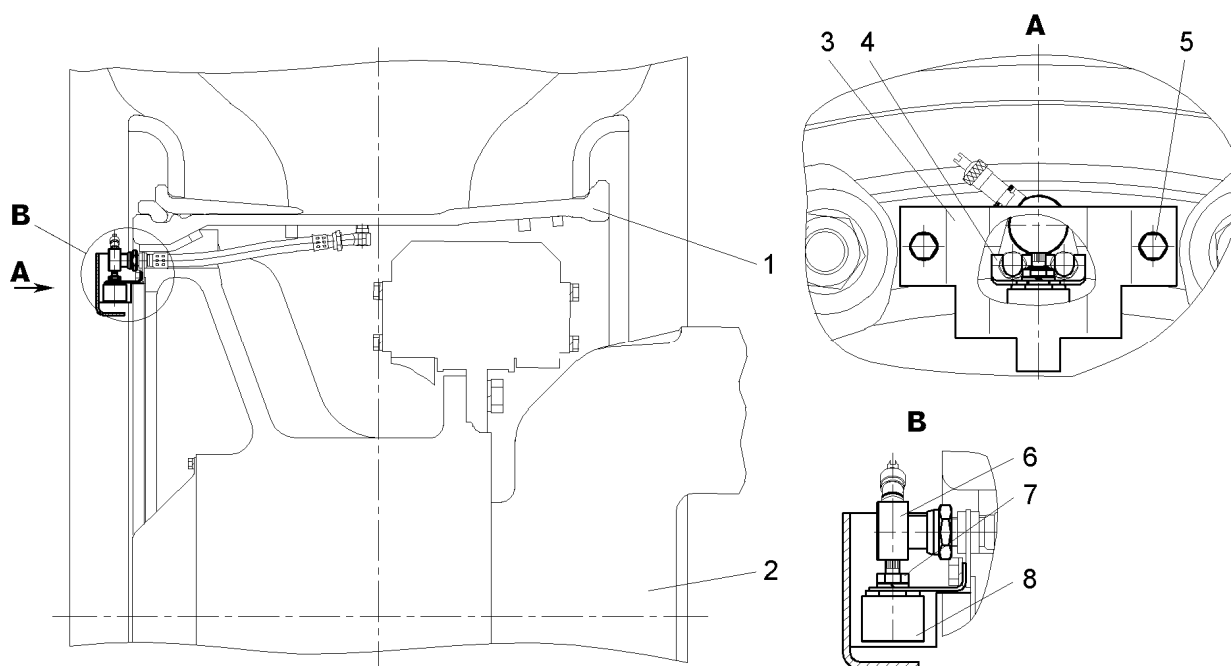
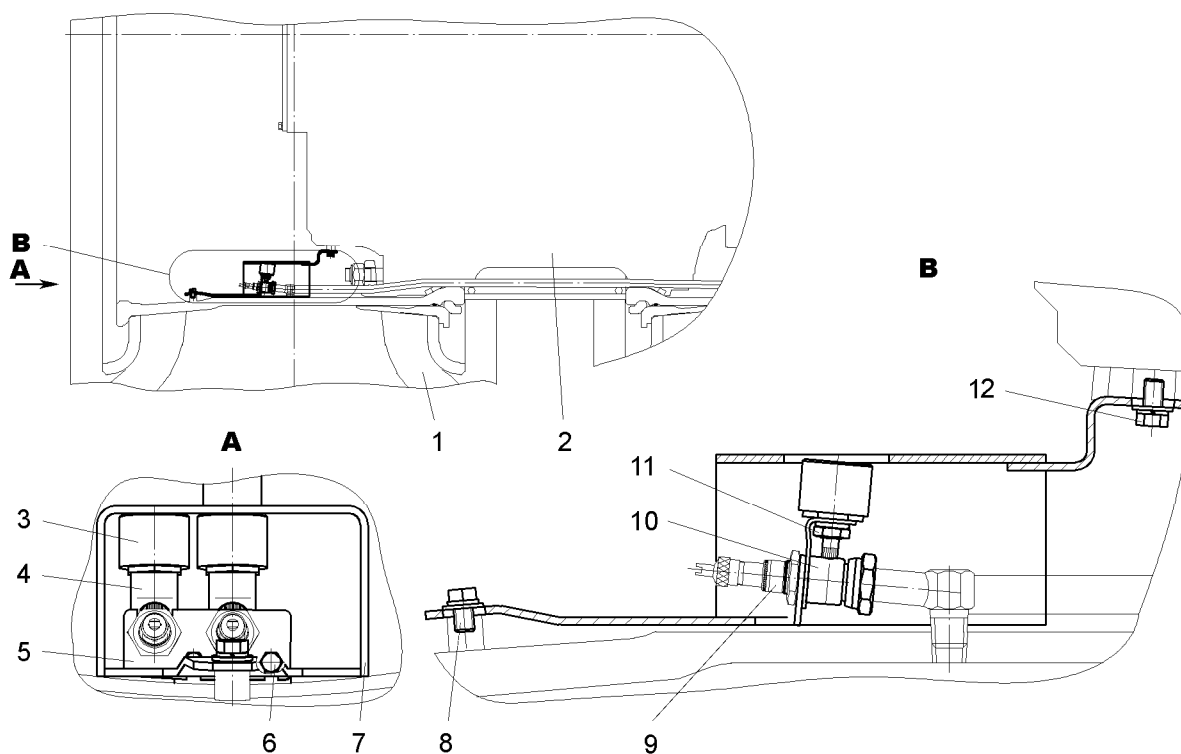
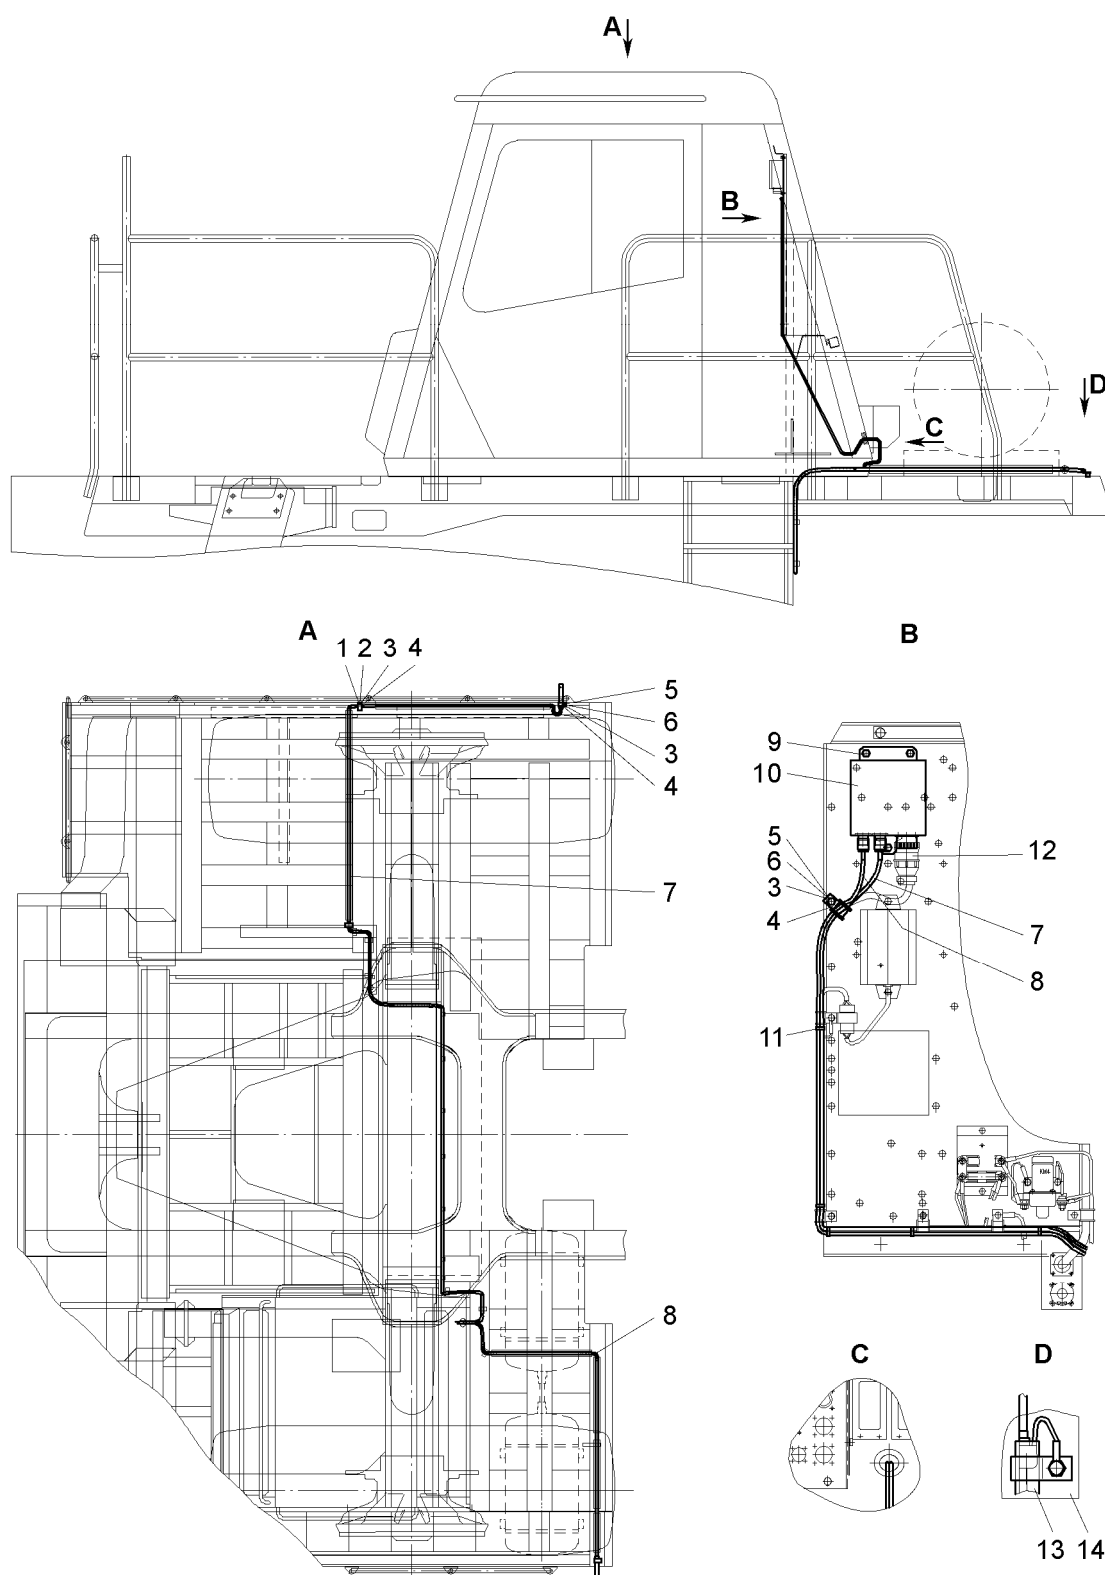

Figure 30 – Installation of the housings of the TMS of the front wheels:
Figure 31 – Installation of the housings of the TMS of the rear wheels:
Figure 32 – Installation of the system for monitoring the pressure in the tires:
The installation of the housings of the telemetering monitoring system (TMS) and the transmitting modules of the front wheels is shown in Figure 30, the bodies of TMS and the transmitting modules of the rear wheels is shown in Figure 31, the mounting of TMS is shown in Figure 32.
- After fitting and fasten the wheels, screw the adapter from the extender and screw it into the housing of the TMS 6 (see Figure 30);